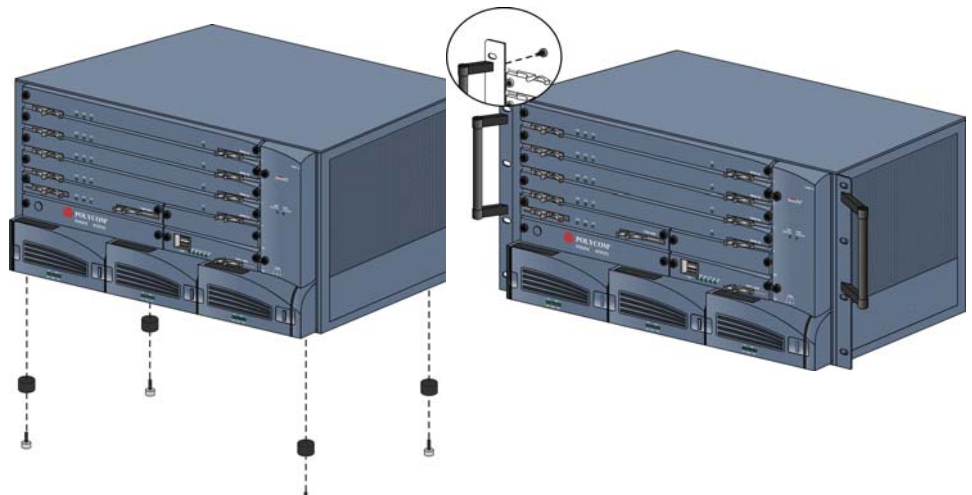

Figure 1-1 Optional - Fast feet and handle removal
- Optional - Depending on the rack installed in your site, you may need to remove the handles if they are attached to the RMX 4000. Unscrew the handles from the chassis as shown in Figure 1-1, "Optional - Fast feet and handle removal".
- Optional - If the opening in the rack that is allocated to the RMX 4000 is exactly 6U, the feet must be removed from the RMX 4000 to install it in the rack. Unscrew the feet from the chassis as shown in Figure 1-1, "Optional - Fast feet and handle removal".